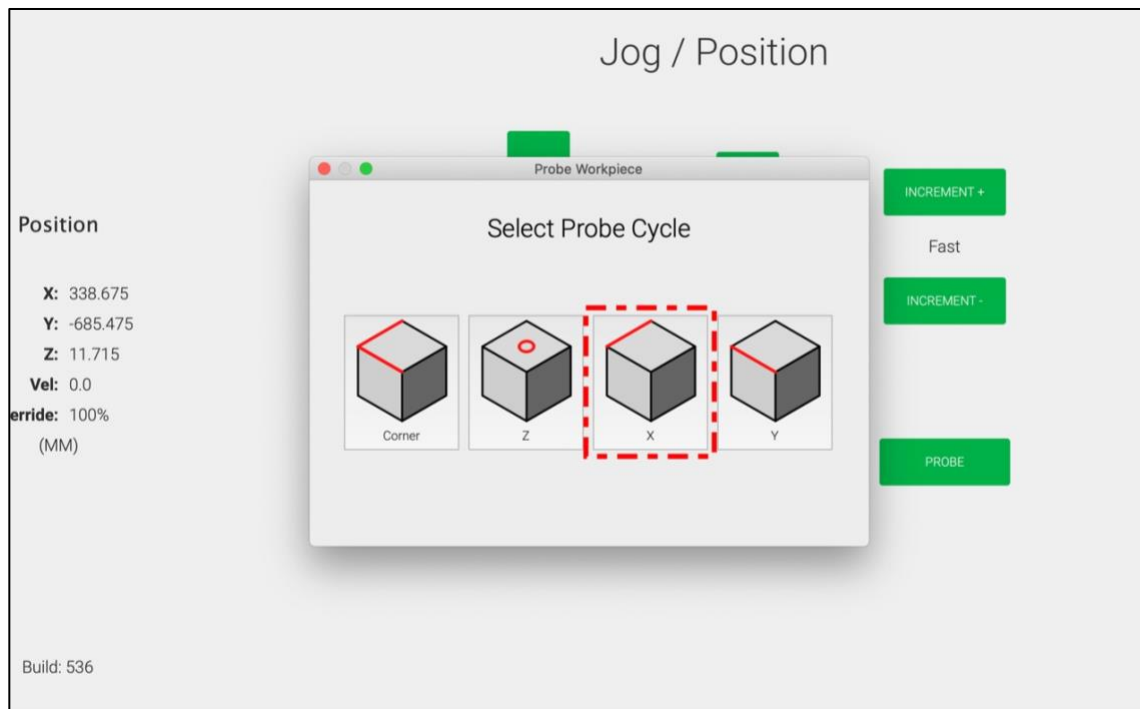
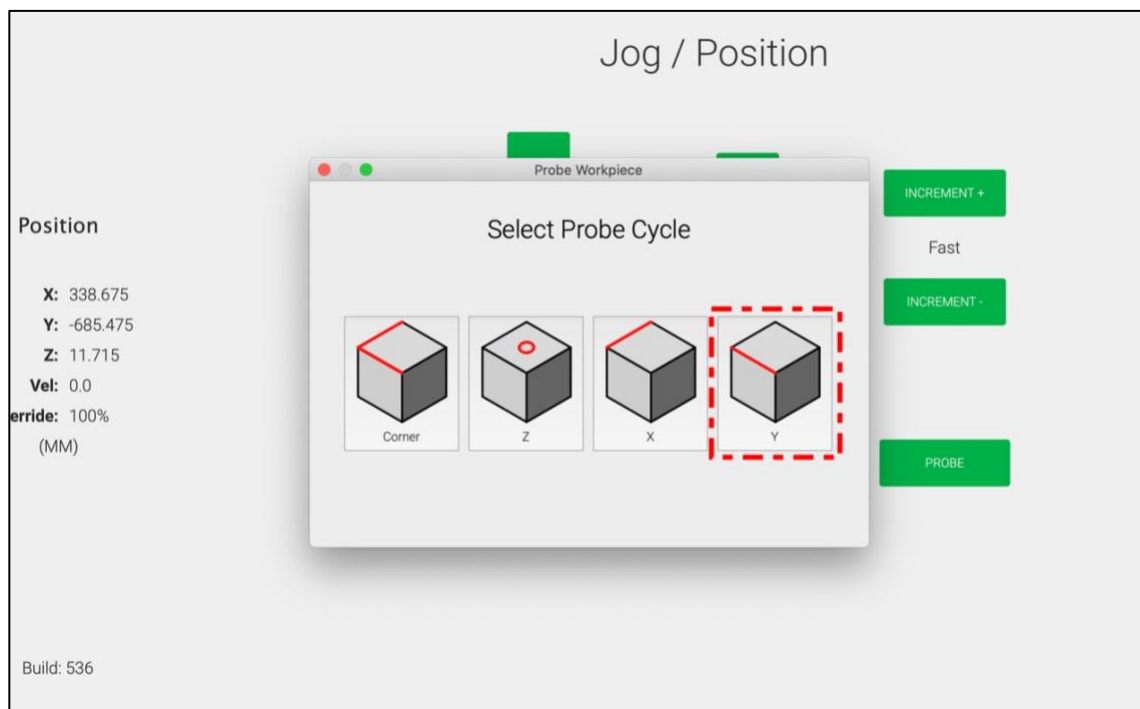

Figure 26
Figure 27
9. Select the **X** probe cycle if you want to set X-zero only (see **Fig. 26**). If you'd like to set Y-zero only, select the **Y** probe cycle (see **Fig. 27**).